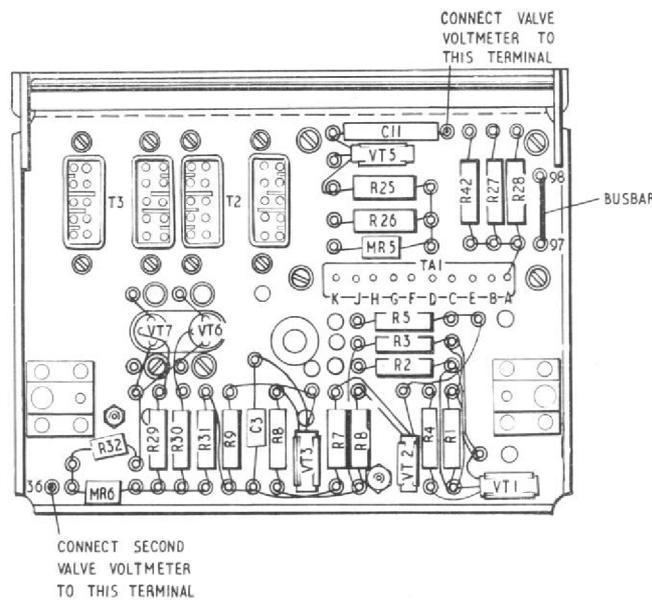
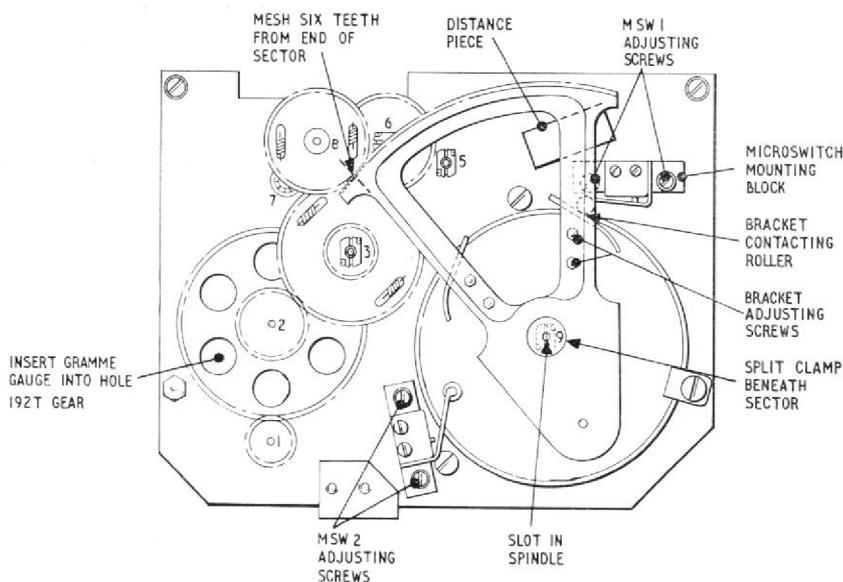

Fig. 2. Rear of chassis assembly — valve voltmeter connecting points
Fig. 3. Underside of gear train — sector positioning
- (1) Height lock transducer, Type B test panel (Ref. No. 6C/4531) fitted into the test set, Type 9B (Ref. No. 6C/2868), as shown in App. 1, fig. 3.
- (2) Pitot-static test set Mk. 3 (Ref. No. 6C/2106) or air data test set, Type B (Ref. No. 6C/3720)
- (3) Multimeter, Type 12889 (Ref. No. 5QP/17447).
- (4) Valve voltmeter, range 0 to 5V, calibrated to an accuracy of 0.5 per cent (2 off).
- (5) Insulation resistance tester, Type C (Ref. No. 5G/152).
- (1) Remove cover (App. 4).
- (2) Turn the transducer onto its side and insert a gramme gauge into one of the holes in the 192T gear at axis 2 (fig. 3).
- (3) Measure the force required to move the gear train ensuring that the slip clutch does not slip. The force required should not exceed 8 gm.
- (4) If the setting of the slip clutch is suspected of being incorrect, remove the slip
(2) Set RV2, RV3, RV4, RV6 and RV7 to approximately their mid-position. Set RV1 and RV5 fully clockwise.
(3) Connect the transducer for test as shown in App. 1, fig. 3, with the test set and test panel switches set as in para. 8, sub-para.
(4) Allow transducer three minutes warm-up period
(4) Set the switches and controls of the Mk. 3 pitot-static test set, or the air data test set, Type B, to the operating positions as detailed in A.P.1275T, Vol. 1, Sect. 3, Chap. 38 or Chap. 42 respectively
(5) Set the pressure on the static input connection to the transducer to 1013.5 mb.
(6) Connect one valve voltmeter between the right-hand end of C11 and busbar 97-98, and a second valve voltmeter between terminal 36 (C12) and busbar 97-98 (fig. 2).
(7) Turn the gear train by hand until a signal of 1mV r.m.s. is seen on the first valve voltmeter. Adjust RV5 until the signal on the second valve voltmeter is 25V r.m.s.
(8) Disconnect valve voltmeters and connect one voltmeter to the test panel (TE3 O/P and TE2 SIG.E)
(9) Set S2 (HLTP) to BAROMETRIC and note the reading on the valve voltmeter. This must be a null of less than 0.3V r.m.s. If not, set S2 (HLTP) to SERVO and adjust RV2. Return S2 (HLTP) to BAROMETRIC and check the valve voltmeter reading. Repeat until the null is obtained
(10) With S2 (HLTP) at BAROMETRIC, reduce the pressure on the static input to 1009.5 mb. Adjust RV1 to obtain a reading on the valve voltmeter of approximately 2.5V r.m.s.
(11) Set S2 (HLTP) to SERVO and adjust the pressure on the static input to approximately 1006 mb. Set S1 (HLTP) to OFF and slowly increase static pressure to 1013.5 mb.
(12) Set S1 (HLTP) to ON and observe the 192T gear (fig. 3) on the tachogenerator shaft. The gear should make one overshoot and one undershoot before coming to rest. If not, adjust RV6 as necessary.
(13) Set S2 (HLTP) to BAROMETRIC and adjust the pressure on the static input connection to 1009.5 mb. Note the reading on the valve voltmeter. Return the pressure 1013.5mb and S2 (HLTP) to SERVO.
(14) Set S2 (HLTP) to BAROMETRIC and adjust the pressure on the static input connection to 1017 mb. Note the reading on the valve voltmeter. This reading and that obtained in sub-para. (13) must be 2.5V r.m.s. ± 5 per cent. The readings must not differ by more than 5 per cent. Adjust RV7 to decrease the difference and re-adjust RV2 as in sub-para. (9) Check the outputs again on the valve voltmeter at 1017 mb and 1009.5 mb. Repeat the procedure as necessary.
(15) Set the switches on the (HLTP) as follows:—
(1) If the gear train has not been removed from the transducer, remove in accordance with the removal instructions in App. 4.
(2) Slacken the sector split clamp screws and position the sector so that it meshes with the 84T split gear (axis 8), six teeth from the left-hand end of the sector as shown in fig. 3. Load the split gear $\frac{1}{2}$ to 1 tooth before meshing.
(3) Place the distance piece, fig. 4, beneath the sector in the position shown on fig. 3, and position the sector on the spindle so that it rests on the distance piece.
(4) Place a screwdriver in the slot of the capsule unit spindle and carefully rotate the spindle fully clockwise to bring the E-coils within the capsule unit against their stop.
(5) Torque tighten the sector split clamp screws in accordance with the instructions for tightening split clamps given in App. 4.
(6) Remove distance piece.